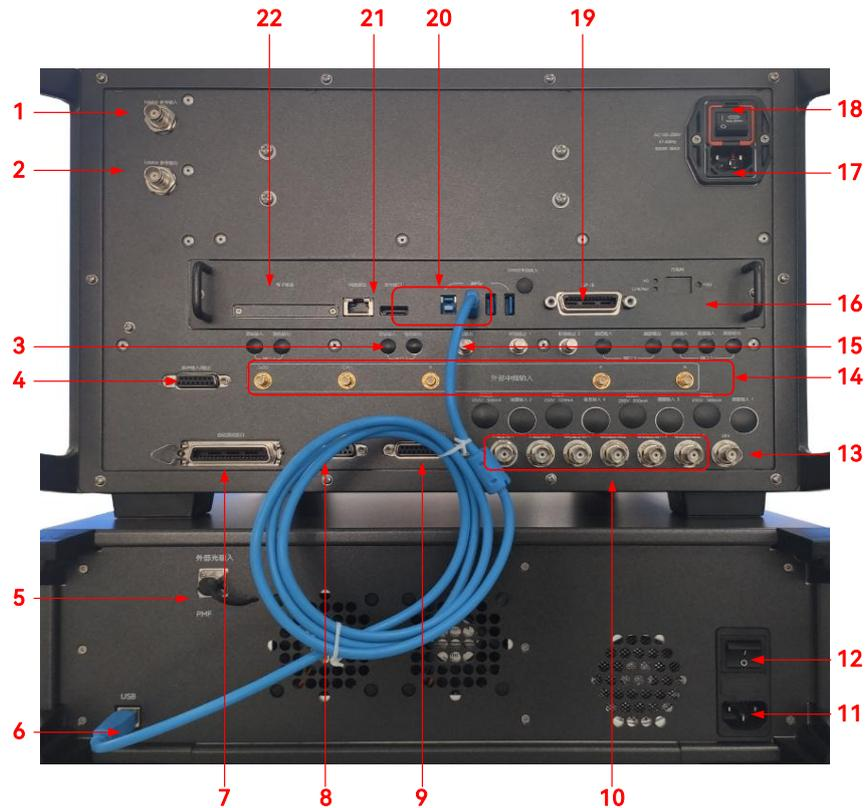

Fig. 3.2 6433 Rear Panel
Step 2 Turn on the power switch on the rear panel, as shown in Figure 3.2. Observe that the standby indicator above the power switch on the front panel turns yellow.
This section describes the composition and functions of the rear panel of the 6433 series lightwave component analyzer. The rear panel is shown in Figure 3.2.